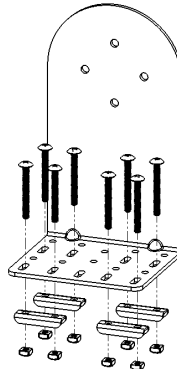

Figure 31
Step 1 – Attach the L-Bracket to a desired surface using the hardware provided (see **Figure 31**).